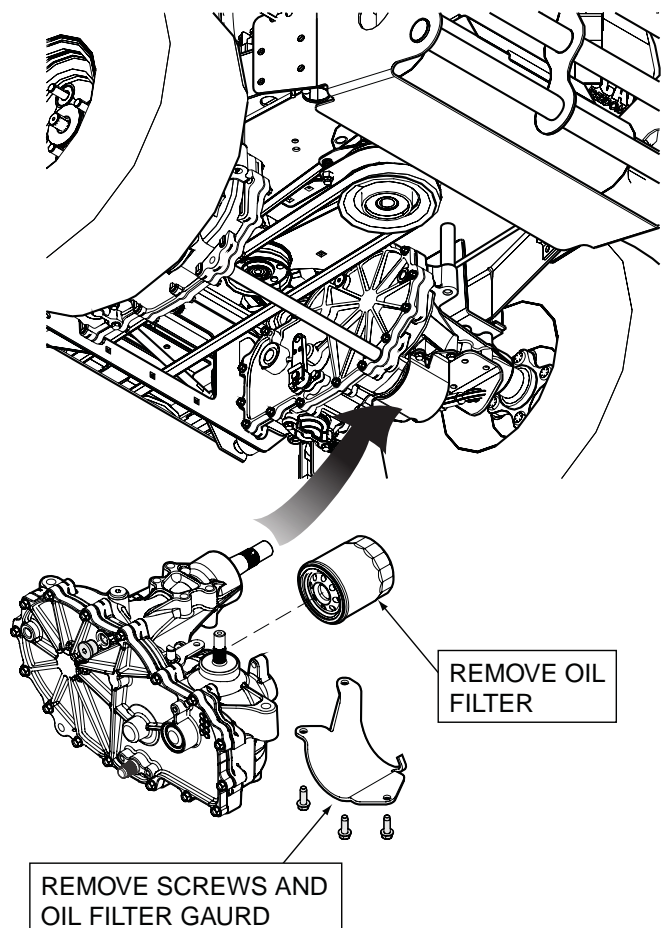

Figure 7-3 Hydraulic Oil Filter and Drain Plug
2. Remove the three 1/4" filter guard screws and filter guard from both axles. (See Figure 7-3). Clean any loose debris from around the perimeter of the filter.
4. Remove the hydraulic filters from both axles and allow the fluid to drain into the container. Properly discard the oil when the system has drained completely. (See Figure 7-3)